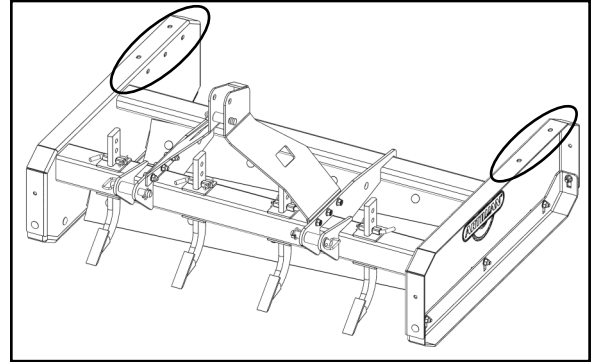

Fig. 1 (Mounting Surfaces)
1. Place the land plane in a safe and open environment and clean off all debris from the mounting surfaces shown circled in Figure 1.